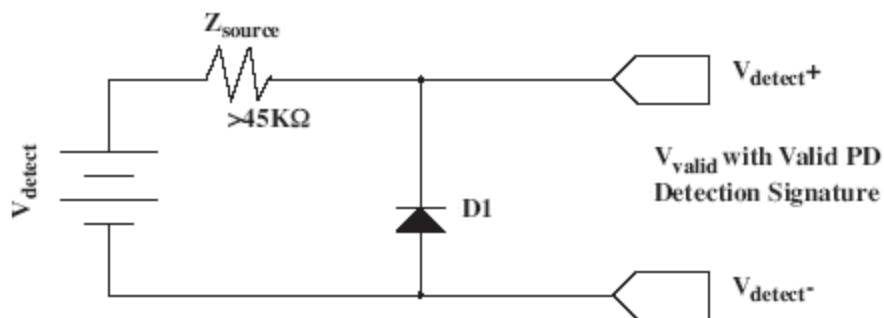
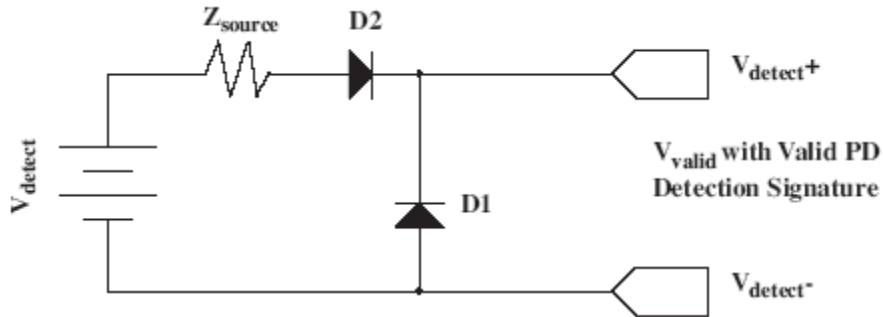

Figure 33-8—PSE detection source
Figure 33-9—Alternative PSE detection source
[1] IEEE Std 802.3-2005: Subclause 33.2.5, Figures 33-8, 33-9
**Discussion:** The PSE should detect the PD via the PSE PI. The PSE's detection circuit can have a Thevenin equivalent circuit consistent with Figure 33-8 or 33-9, in all detection states. This is intended to prevent a PSE to PSE connection from detecting a valid PD signature.
**PSE Detection Source (Figure 33-8):** The PSE is connected to the PD simulator with a 1m length of Category 5 cable. An oscilloscope is connected across the PI of the PD simulator. A 45k $\Omega$  load is attached to the PD's PI.
**Alternative PSE Detection Source (Figure 33-9):** The PSE is connected to the PD simulator with a 1m length of Category 5 cable. A current meter is connected to the PI of the PD simulator. A current source is connected to the PI of the PD simulator to inject current to the  $V_{\text{detect}+}$  port.
- a. If the DUT does not accept current into the  $V_{\text{detect}+}$  port, the DUT follows Figure 33-9. Otherwise, the DUT should accept current into the  $V_{\text{detect}+}$  port and the DUT should show a loaded PI voltage of less than half of the open circuit PI voltage, according to Figure 33-8.